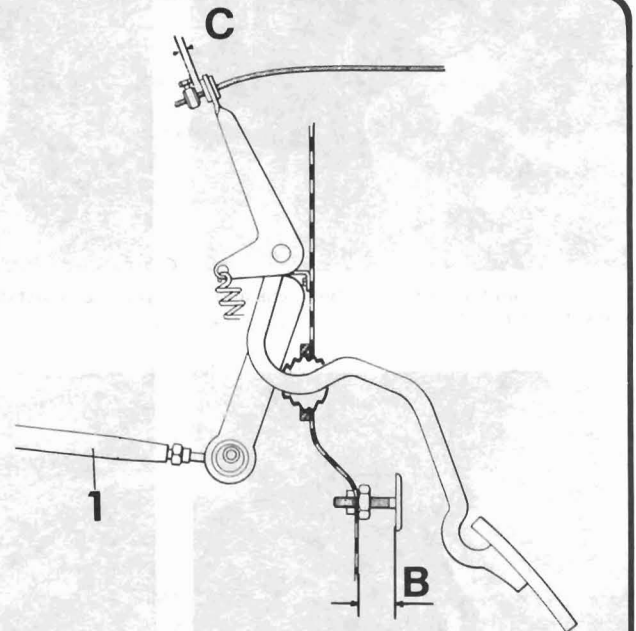

Fig. 3.12 Hand throttle cable stop clearance and accelerator pedal stop projection (Sec 14)
- 4 Set the throttle hand control in the fully off position. Check that the clearance between the clamp at the end of the cable and the accelerator pedal lever is as shown in Fig. 3.12. Adjust the position of the clamp on the cable if necessary (photo).